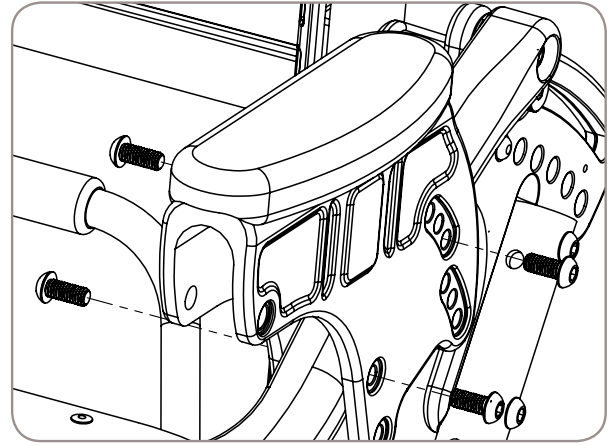

Figure 26
1. Remove button head bolts (4). 4mm hex wrench required. Reference Figure 26.